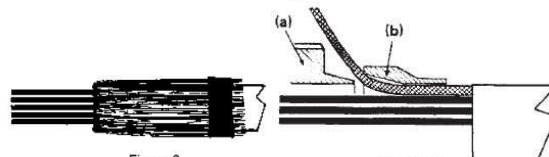

Figure 2
3. Fold back the braid on the outer jacket and fix it (figure 2).